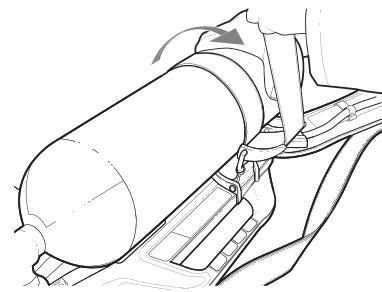

Fig. 37 Loosening the cylinder strap
- Lift the cylinder strap against the cam lock buckle to release the buckle tension and loosen the strap (Fig. 37).